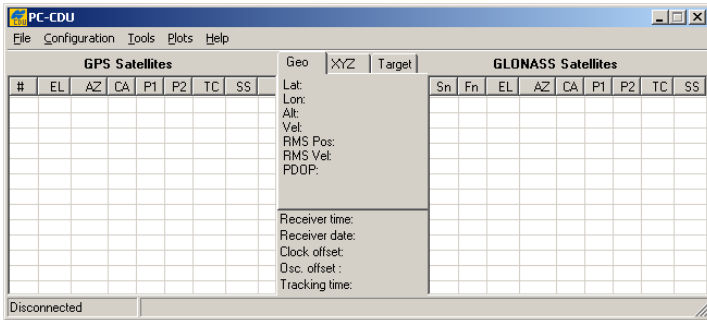

Figure 3-19. PC-CDU Main Screen
2. Start PC-CDU on your computer. The PC-CDU main screen displays (Figure 3-19).